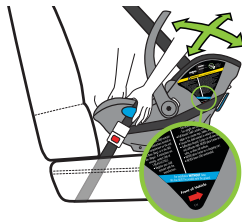

Figure 73
- Grip Carrier near blue UAS/Lap Belt Guides and pull Carrier side-to-side and front-to-back to check for secure installation, as shown in **Figure 73**.
- Verify that the blue Recline Reference Line on side of seat is parallel with ground, as shown in **Figure 73**. If not, unbuckle the seat belt and go back to **Step 6**.